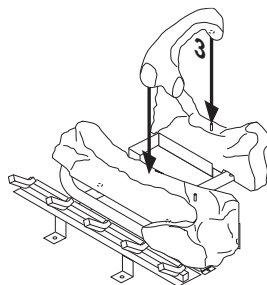

Figure 20 - Installing Log #3
- Place log #3 (c-shaped crossover log) onto rear and front logs as shown in Figure 20. Make sure it is seated properly on the smooth surface on front log and on the pin on back log.